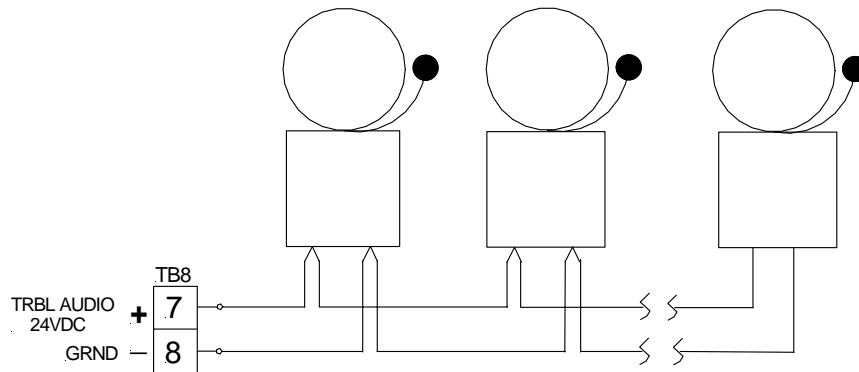

Figure 3-15
- Figure 3-15 is the wiring diagram for the unsupervised Trouble Audible output connection.